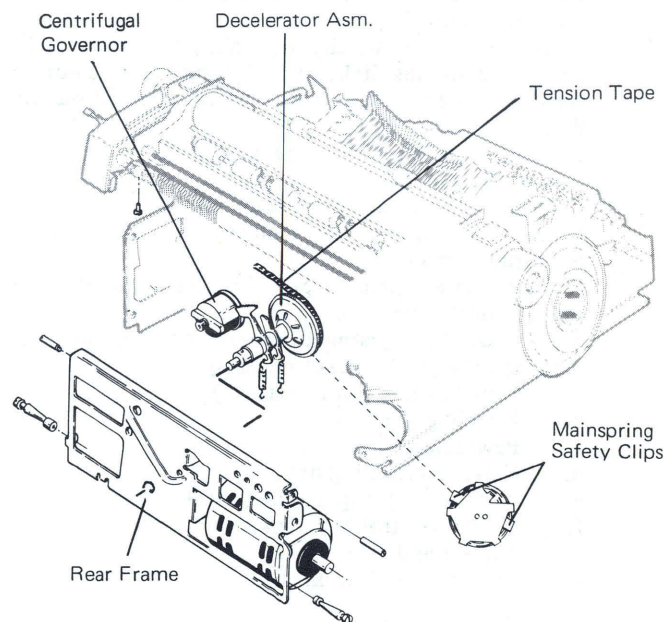

Figure 5 – Decelerator Removal
2. Remove carriage tension tape and release the main-spring tension (Figure 5).